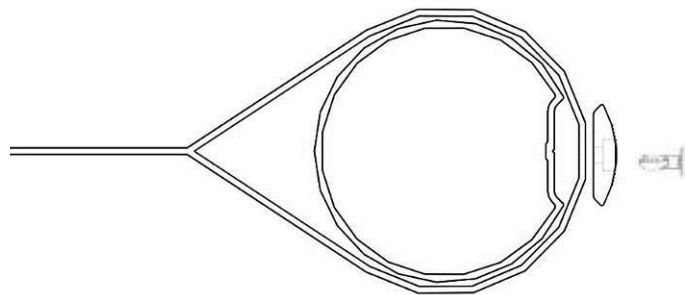
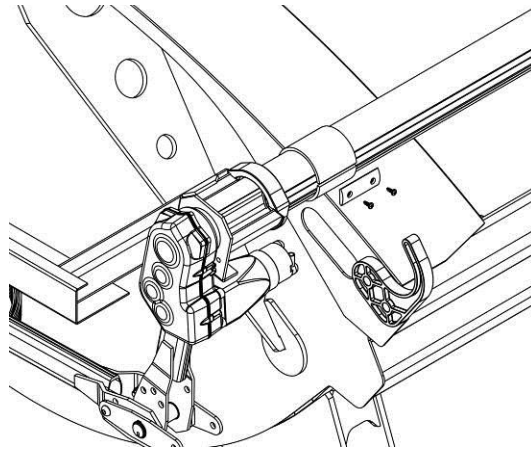

Figure 16
Figure 19
3. Rotate the arm up to the axle and slide the adapter into the housing that is welded to the arm. Refer to figure 16 below.
Using the provided tarp clips and self drilling screws install rubber protection strips around the tarp axle where the axle comes into contact with the top of the trailer at the front and the rear. Align the ends of the protective strips with the groove in the tarp clip recess in the tarp axle (see fig. 19) and install the tarp clip so that it goes down into the recess in the tarp axle as you did installing the tarp - see Fig 16.
If the arms have trouble lifting the axle from under the top rail of the trailer, you can increase the pressure in the knuckle by removing the clevis pin from the knuckle and replacing it in a hole counter-clockwise from the original. If the problem persists, you may have to add gussets to the side of the tub. Refer to figure 19 Note this is representative of a driver stowing system.